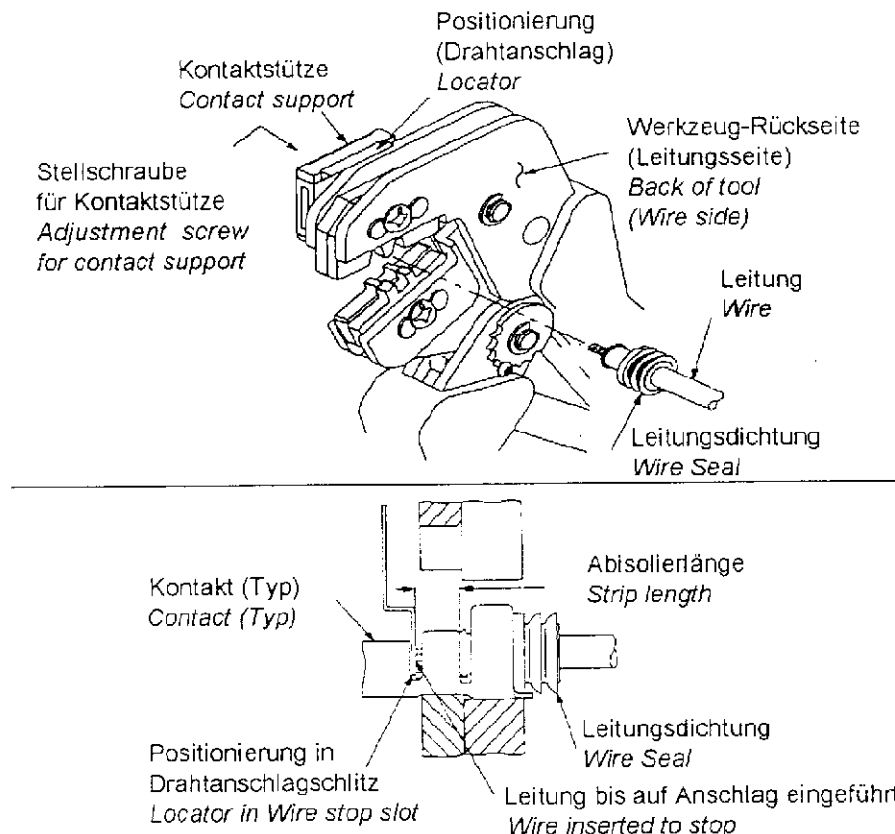

Figure 3
Refer to the table in Figure 1a and select wire of the specified size and insulation diameter. Strip the wire to the length indicated in Figure 1a, taking care not to and identify the appropriate crimp section according to the wire size marking on the tool. Refer to Figure 3 and proceed as follows:
3. *Position the contact so that the mating end of the contact is on the locator side of the tool, and so that the open "U" of the wire and insulation barrels face the top of the tool. Place the contact up into the nest so that the movable locator drops into the slot in the contact. Refer to Figure 3. Butt the front end of the wire barrel against the movable locator.*
5. *Insert stripped wire into contact insulation and wire barrel until it is butted against the wire stop, as shown in Figure 3.*
The crimped contact may stick in the crimping area, but the contact can be easily removed by pushing downward on the top of the locator (see Figure 3).